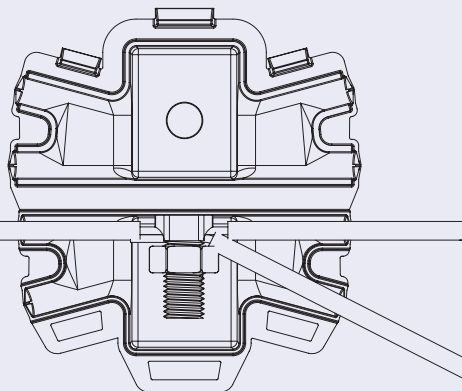

Figure 1
2. Lay conductor and connector into housing per Figure 1.